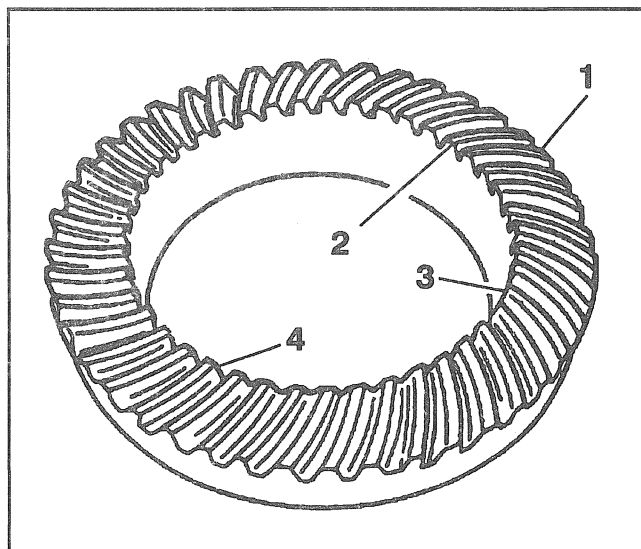

Figure 26—Gear Tooth Nomenclature
The side of the ring gear tooth which curves outward, or is convex, is referred to as the "drive" side (4). The concave side is the "coast" side (3). The end of the tooth nearest the center of ring gear is referred to as the "toe" end (2). The end of the tooth farthest away from the center is the "heel" end (1). The toe end of the tooth is smaller than the heel end (Figure 26).